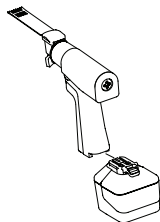

Figure 3 – Install Battery Pack
1. Slide a fully charged battery pack firmly into the handpiece until the battery latch snaps, indicating the battery pack is secure (see figure 3).